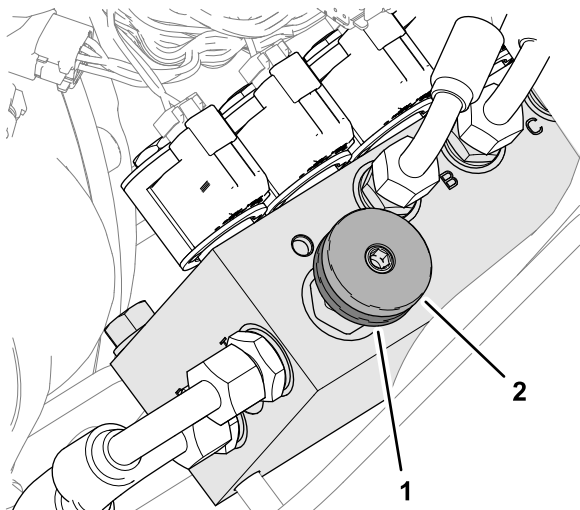

Figure 37
**To engage weight transfer:** The amount of weight transfer can be varied to suit operating conditions by rotating the weight transfer hand wheel (Figure 37) as follows:
1. Release the valve locknut 1/2 turn counterclockwise and hold (Figure 37).
2. Rotate the valve hand wheel (Figure 37) counterclockwise to reduce weight transfer or clockwise to increase weight transfer.